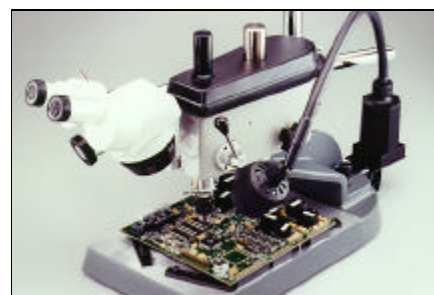

Figure 1: Precision Drill System shown with PC board pinned in place.
3. Pin the PC board to the base of the Precision Drill System. (See Figure 1).